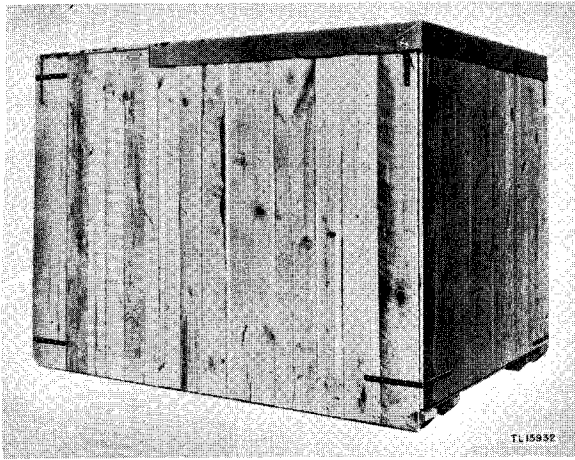
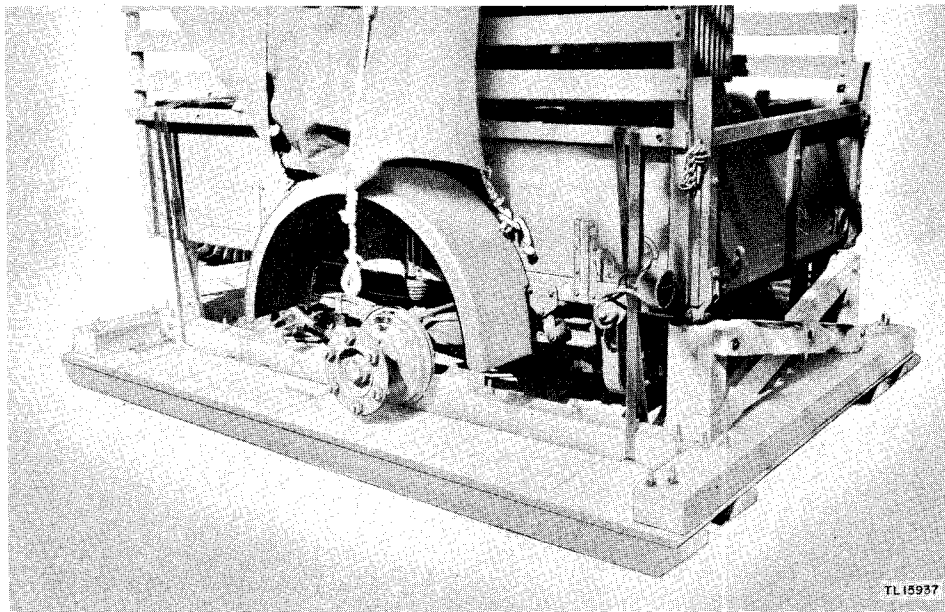

Figure 24. Shipping Box for Trailer K-52-( ) with Power Unit PE-95-( ) installed.
Figure 25. Trailer K-52-( ) with Power Unit PE-95-( ) installed, on shipping crate.
(11) The second box (fig. 24) contains Trailer K-52-( ) in which Power Unit PE-95-( ) is installed prior to shipment. With nail pullers and prybars, remove the top of this box.
(12) Remove the four sides of the trailer box.
(13) Remove the waterproof wrapping from about the trailer.
(14) Remove the shoring and straps which hold the trailer to the bottom of the box. (See fig. 25.)
(15) Remove the trailer from the bottom of the box.
(16) Check the contents of the trailer against the packing list.